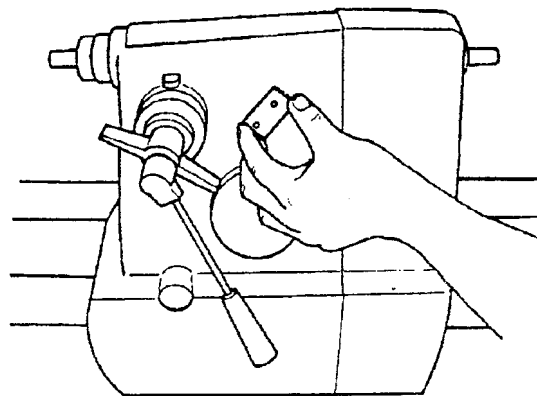
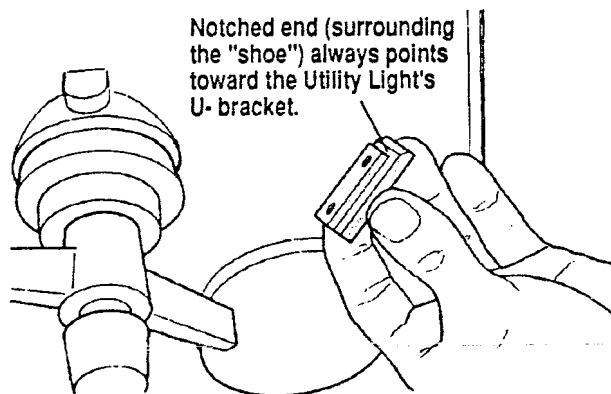

Fig. 1
Fig. 2
3. After you have determined the exact location of the support bracket, hold it in position as in Fig. 1. Make sure the notched end of the support bracket faces toward the Utility Light's fork bracket, as shown in Fig. 2.